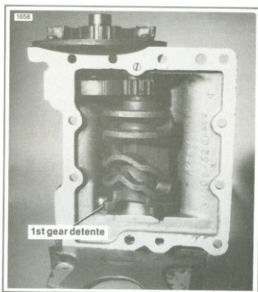

Figure 7-12. Drum Shifter in 1st Gear
6. See Figure 7-12. Rotate the shifter cam into 1st gear as shown. Make sure the cam follower rests in the first detente.